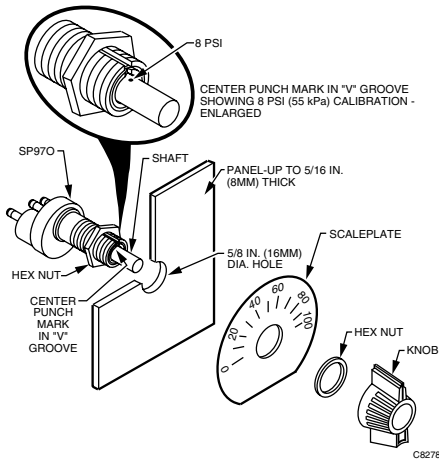
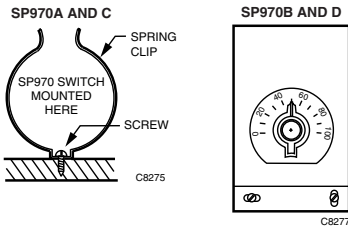

Fig. 3. SP970A and C panel mounting.
Fig. 4. SP970 surface or wall mounting.
The SP970A and C can be panel, surface or wall mounted. The SP970B and D are surface or wall mounted. See Fig. 3 and 4.
2. Lock the SP970 switch and scaleplate to the panel with a hex nut on the back of the panel. Use a second hex nut on the front panel. See Fig. 3.
Use the mounting bracket as a template and secure mounting bracket to surface. See Fig. 4. Screws are not provided.
All SP970A and C models are calibrated at 8 psi (55 kPa) when the calibration mark (center punch) on the shaft is centered at the bottom of the molded V. To calibrate, align the center punch mark on the shaft with the bottom of the molded V groove on the plastic surrounding shaft. See Fig. 3. This setting equals 8 psi (55 kPa). Secure the knob to the shaft at the proper scale setting. The knob should be pointing to 8 psi (55 kPa). See Fig. 4.